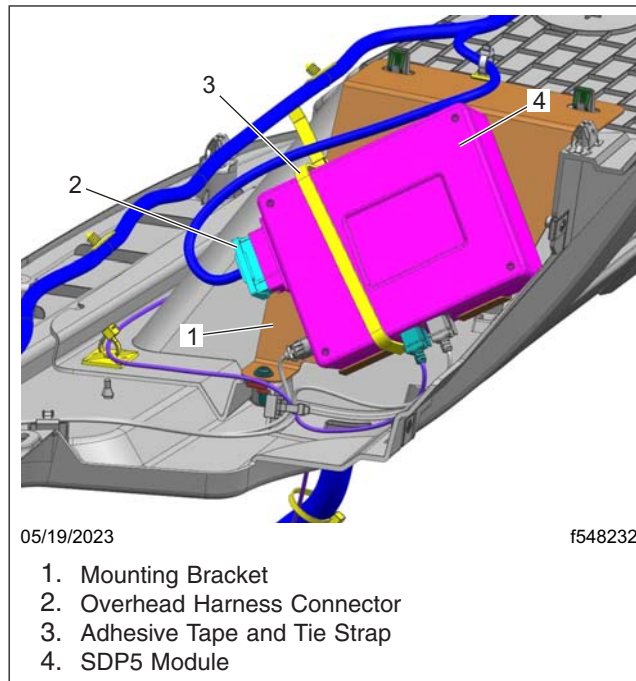
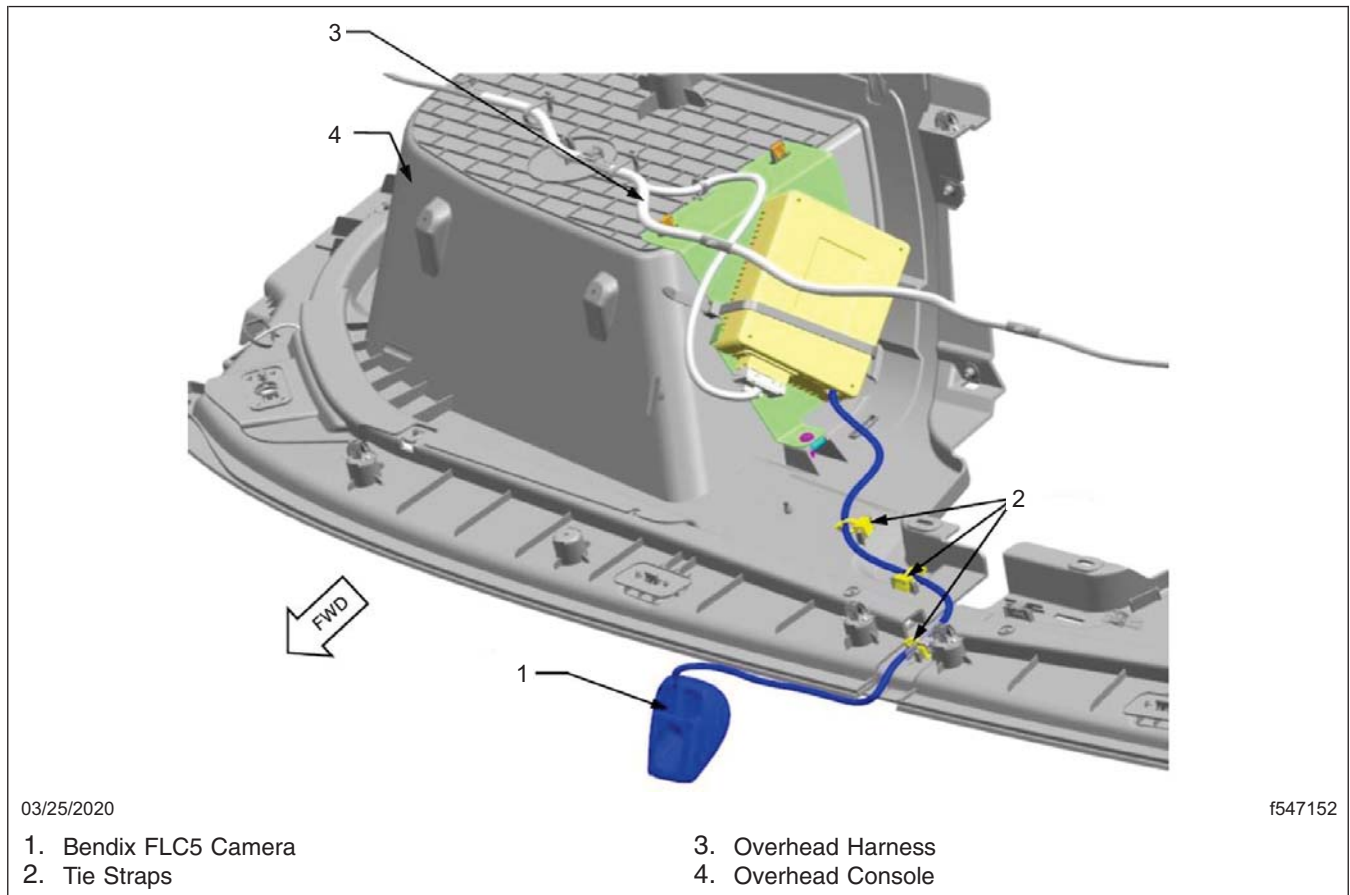
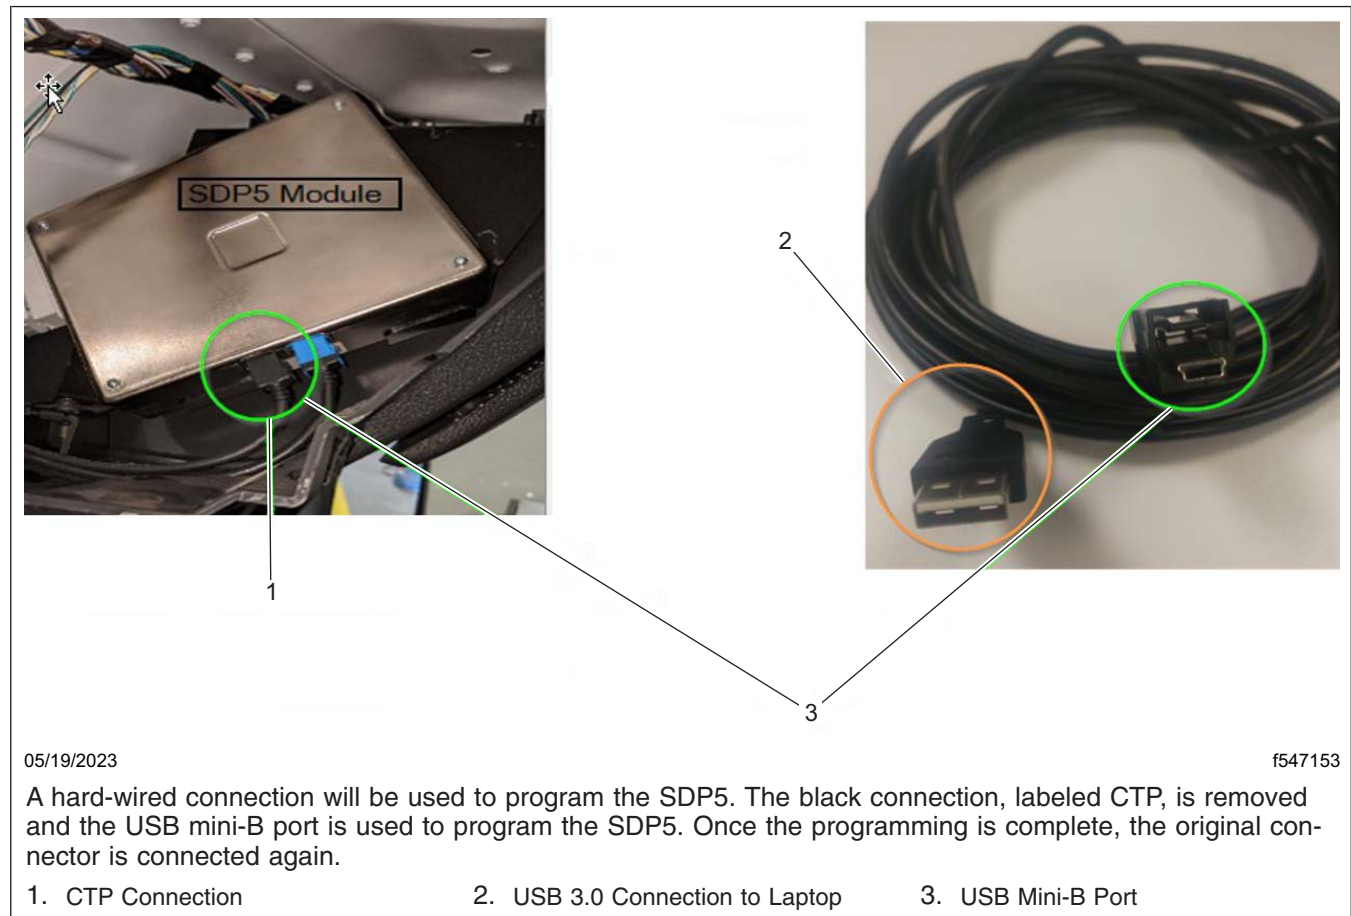

Fig. 16, SDP5 Module Removal
Fig. 17, Overhead Console Sub-Assembly
Fig. 18, Connecting to SDP5
See Fig. 16, Fig. 17, and Fig. 18.
20. Use the original hook-and-loop adhesive tape and a new tie strap to install and secure the SDP5 module on the mounting bracket. See Fig. 16.